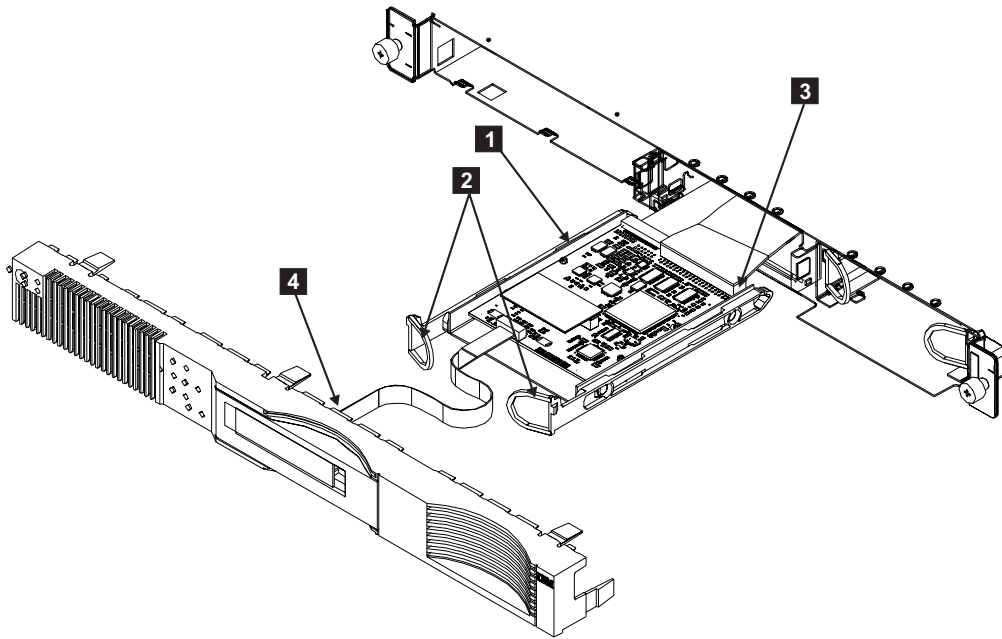

Figure 72. SAN Volume Controller 2145-4F2 service controller
1. Carefully push the service controller (1 in Figure 72 on page 92) into the SAN Volume Controller 2145-4F2.